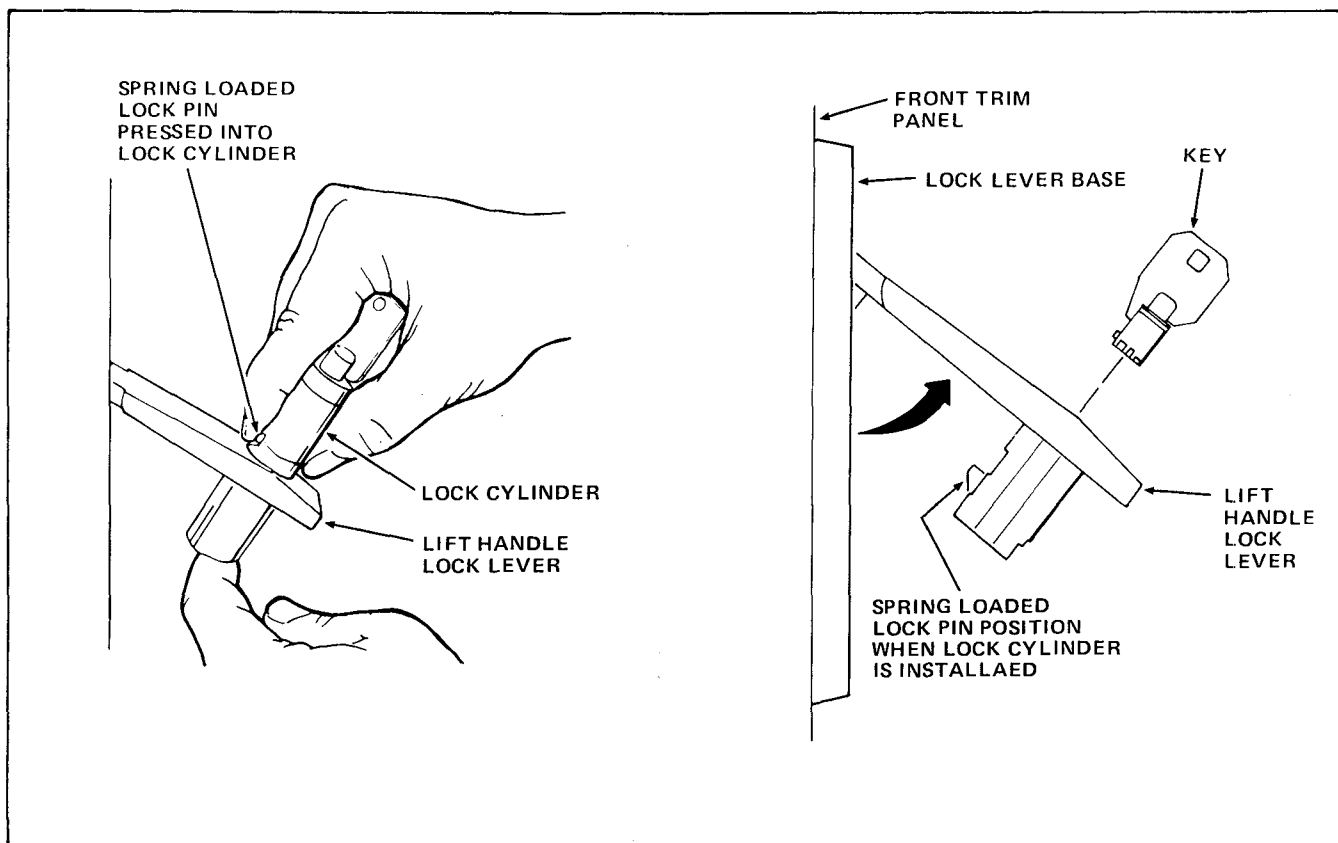

FIGURE 6
4. Insert the Lock Cylinder into the Lift Handle Lock Lever, Lock-pin up. See Figure 6.